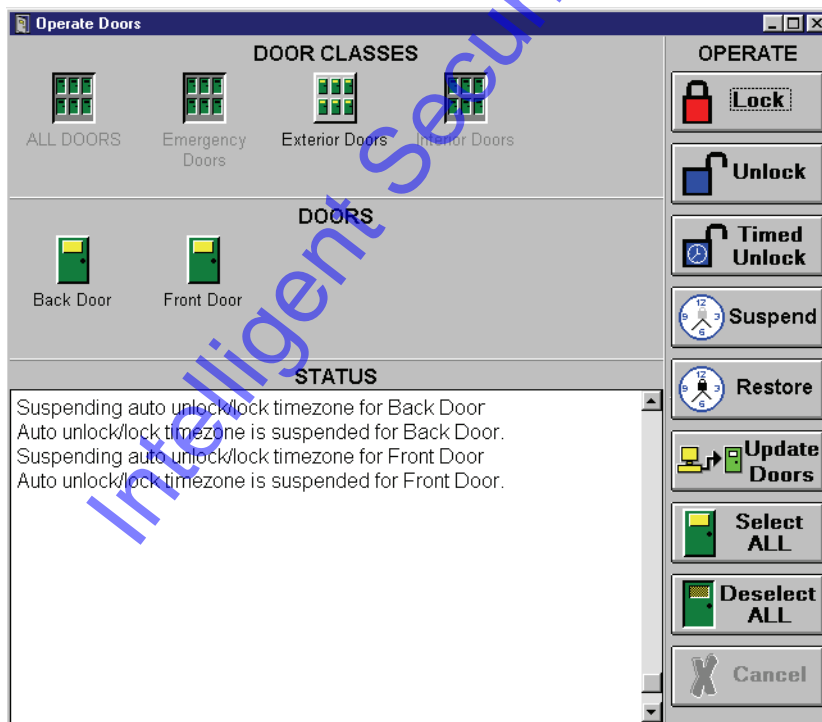

Figure 6-14: Suspending Auto Unlock/Lock on All Doors in a Door Class
4. To proceed with the Suspension, click on the  button. The resulting window should look similar to Figure 6-14.